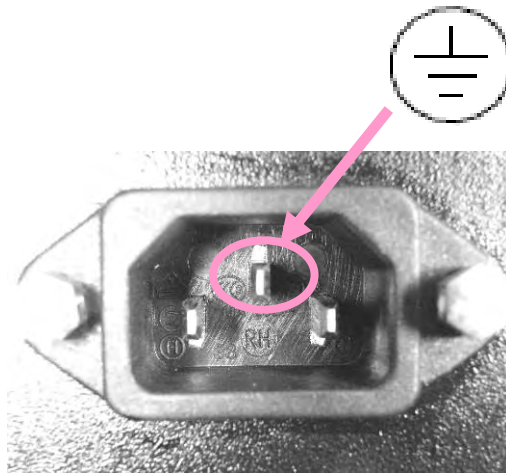

Fig. 8 An Inlet (EN60320)
- (1) The pump rotates in the clockwise direction as seen from the front of the pump (level gauge side).
- (2) An inlet is suitable for standards of EN60320.
- (3) Insert an including plug cord into an Inlet as shown in fig.8.
- (4) Select an power cord which suitable for the voltage class.
- (5) An overload protector (auto reset thermal protector) is incorporated.
- (6) End-user has to make provisions for the installation of the over current protection of the power circuit.